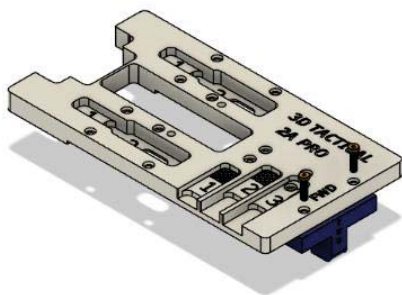

Figure 1-1
1. Install the AR15 pivot block to the underside of the top plate and secure it with 2 *Low-Profile Socket Head Screws*. This should align with the inscribed letters 'FWD' on the top plate. Verify that the letters 'FWD' on the pivot block is facing out. Refer to Figure 1-1.